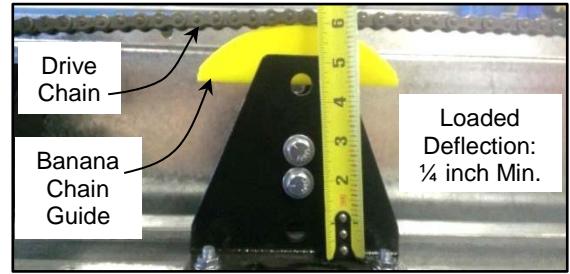

Figure 24
5. With the door in the fully closed position, check the tension of the drive chain by measuring the offset of the chain tensioner banana guide. A properly tensioned chain will have a slight amount of deflection at its midpoint and the deflection of the banana guide when the drive chain is installed on it must be  $\frac{1}{4}$  inch. The chain should be taught but not tight. (See Figure 24)